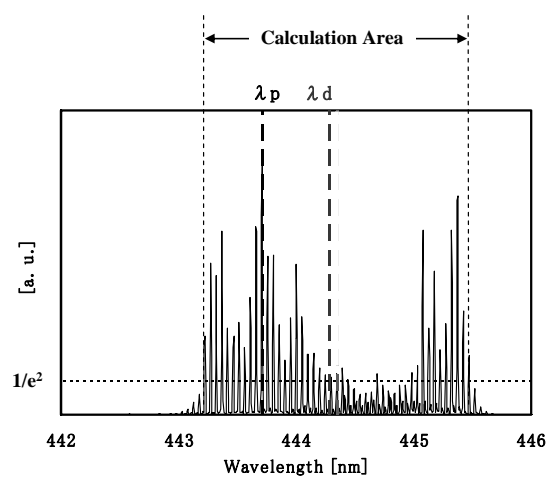

Fig.1 Definition of Dominant Wavelength
*2) λ_d is defined from trichromatic coordinate (x, y) values on chromaticity diagram calculated from the peak intensity higher than 1/e² shown in Fig.1.